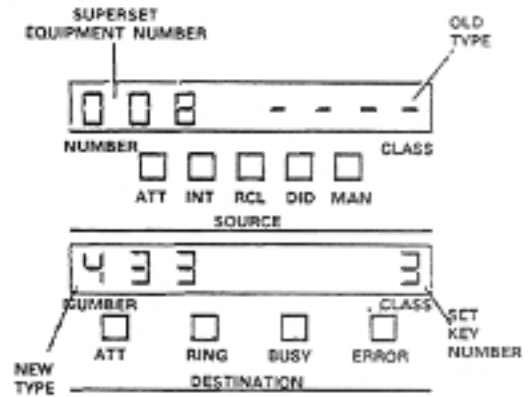

Fig. 271-2 Typical Entry
- (13B) Press ENTER button (Figure 271-2)